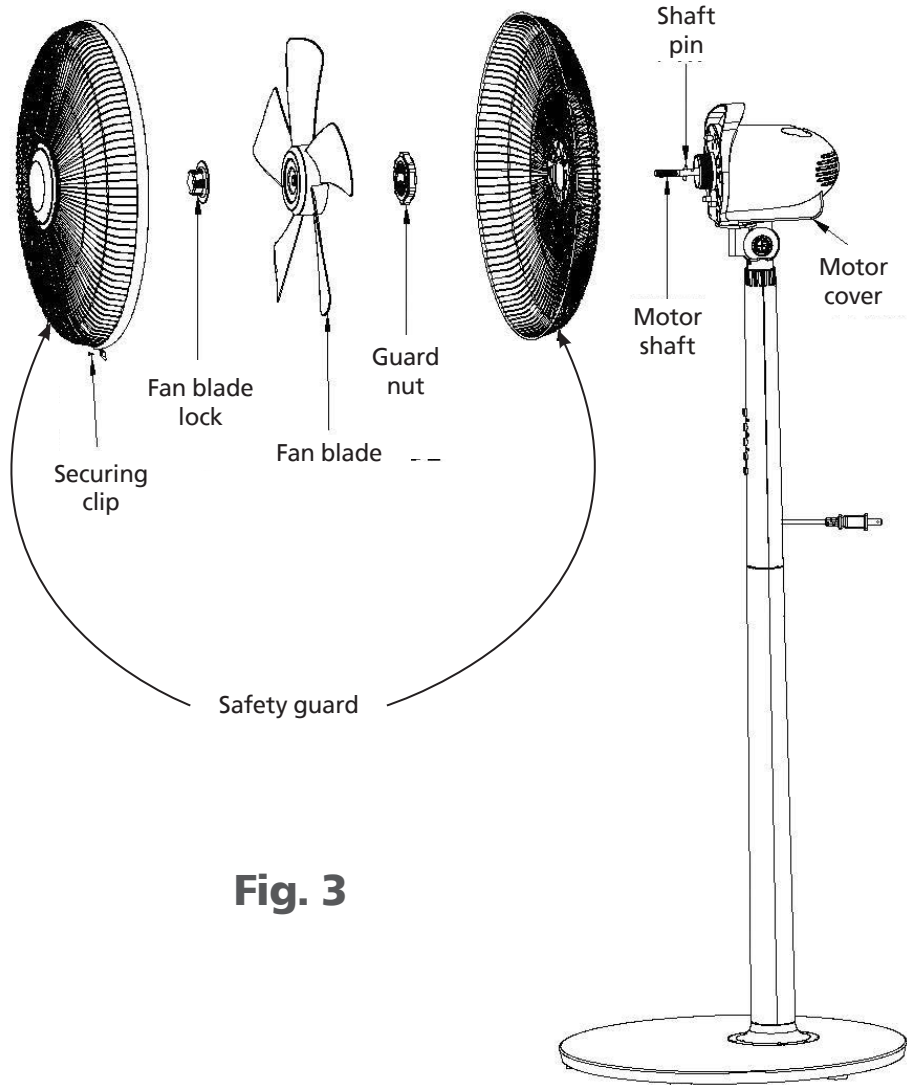

Fig. 3
1. Remove the fan blade lock and the guard nut from the moto shaft. Place the rear safety guard onto the shaft pin. Tighten the safety guard with the guard nut at the motor (Fig. 3).